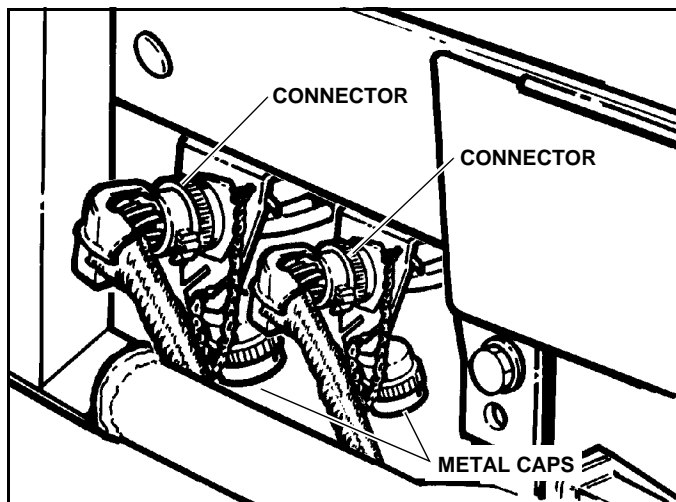

Figure 1-20
3. Remove the Metal Caps from the vehicle end of the Wiring Harnesses by rotating them counterclockwise and store them as shown in Figure 1-20, if Metal Caps are chained to the Harness Plug Bracket. If Metal Caps are not chained to the brackets store the Metal Caps in the vehicle for future use.